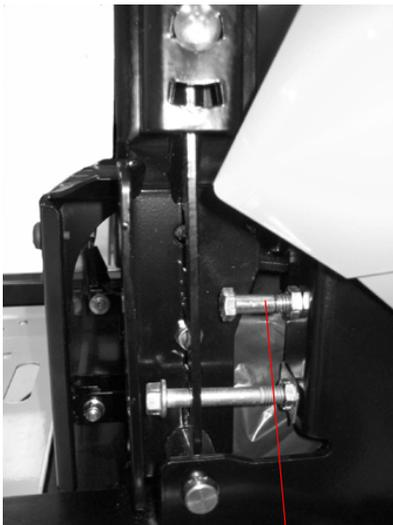

Figure. 11
5. If uneven tracking persists, adjust as follows. (see Fig. 11)